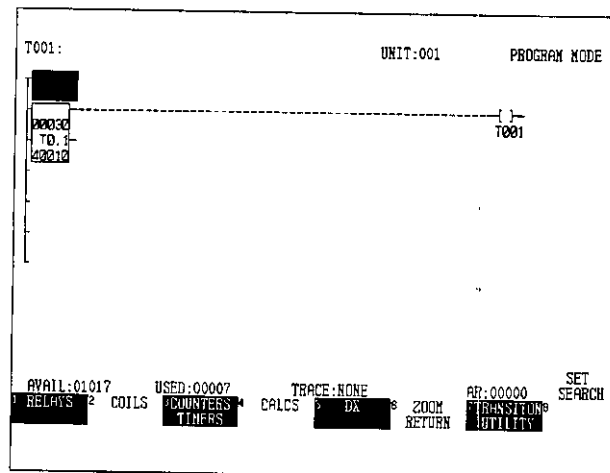

Figure 7.141
(3) If the circuit has not been stored, the transition circuit storage screen will be displayed.
(4) To return from the screen shown in Figure 7.141 to the SFC flow screen, enter S000 in the AR at the main screen and press the Erase/Get Key. To return to an expanded-screen, enter the step number of that screen in the AR and press the Erase/Get Key. You can also return to the expanded-screen by selecting Zoom Return from the zoom functions.